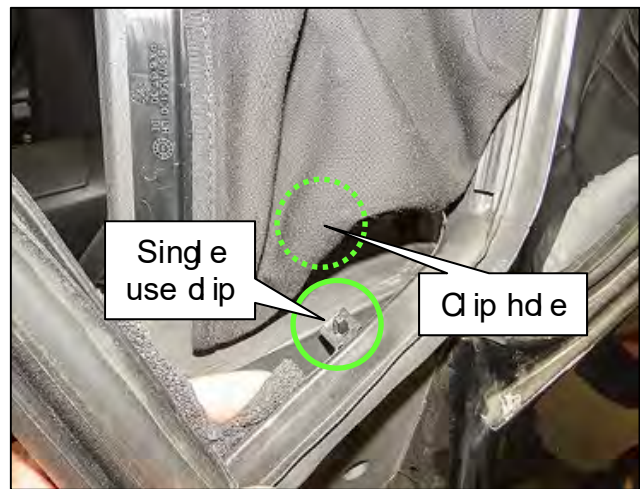

Figure 68
74. Replace the single use dip (CLIP) shown in Figure 68.
- Figure 69 shows the dip head in the linkage assembly and is viewed looking up (see Figure 68).